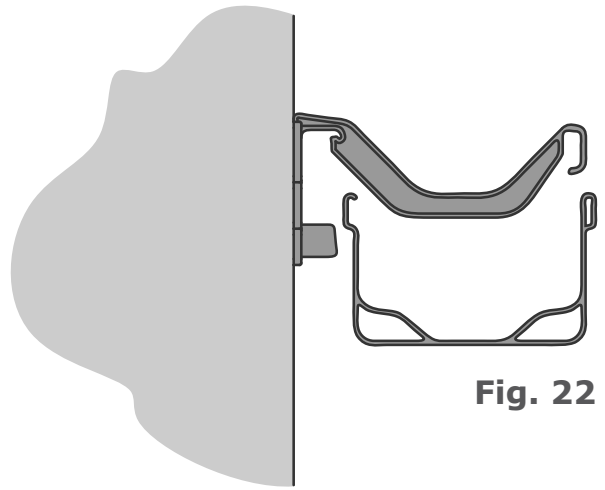
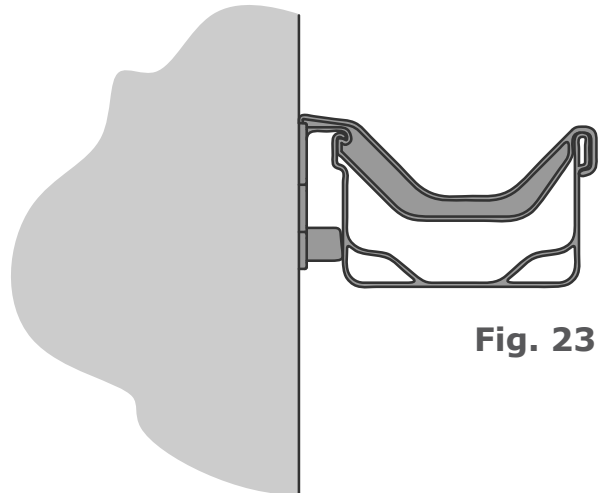

Fig. 22
Fig. 23
15.1. Streamline Double-Flo® gutter sections clip into brackets from below. Fig. 22 and Fig. 23.